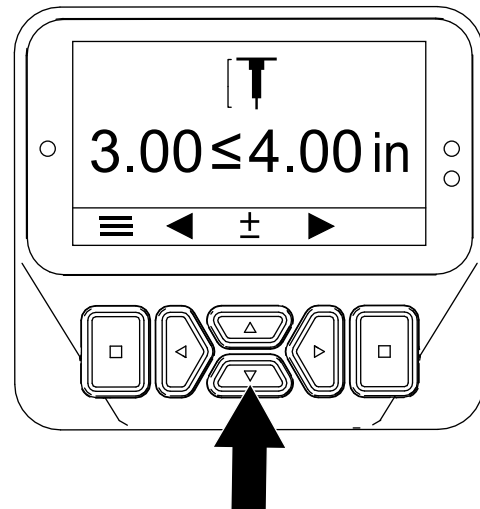
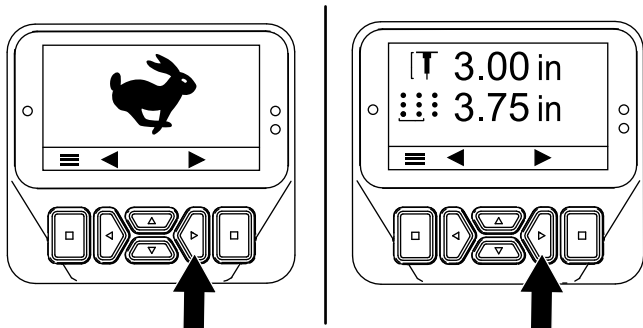

Figure 52
Figure 51
3. Press the right button until the Setting the Hole Depth screen displays (Figure 51 and Figure 52).
4. Adjust the tine depth using the up and down buttons (Figure 52) as follows: